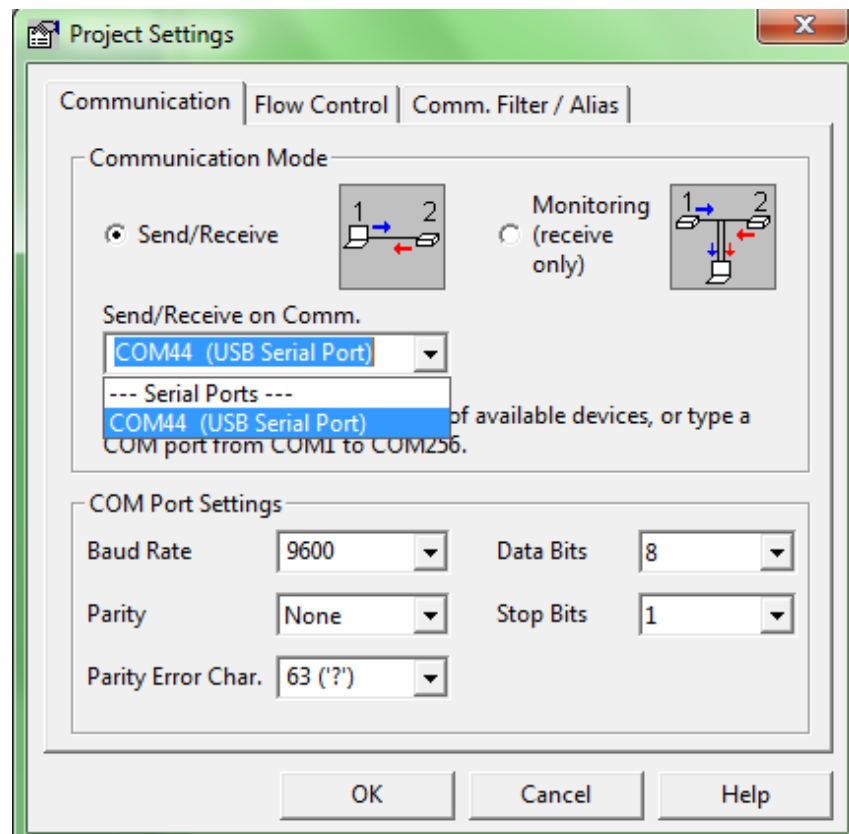

Figure 5: Docklight's Project settings window
2. Click on Tools/Project Settings and select COM Port as shown in Figure 5.